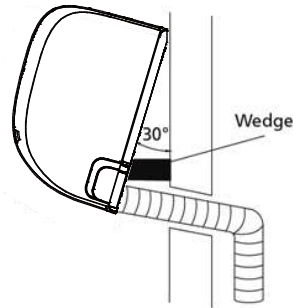

Fig. 4.12
2. Use a bracket or wedge to prop up the unit, giving you enough room to connect the refrigerant piping, signal cable, and drain hose. Refer to Fig. 4.12 for an example.